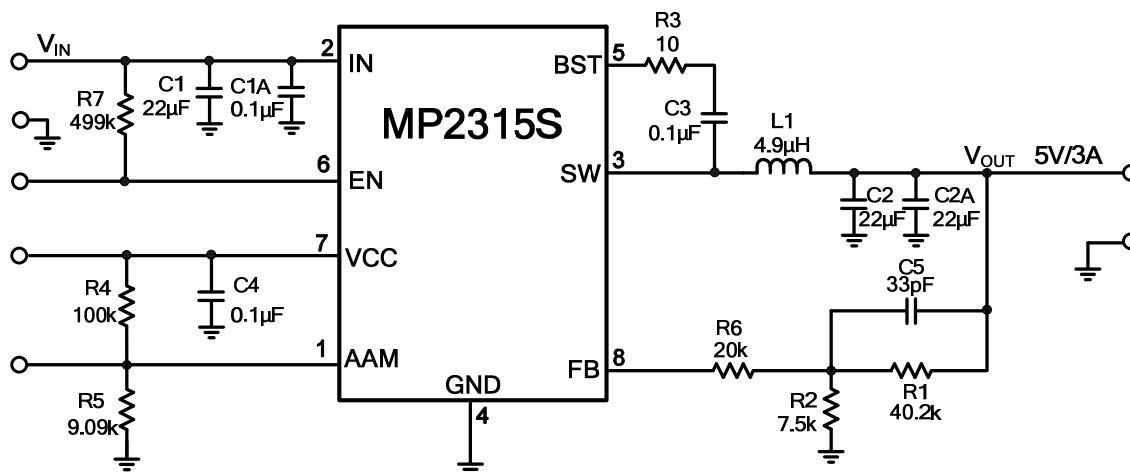

Figure 9: $V_{IN} = 6.5V - 24V$, $V_{OUT} = 5V$, $I_{OUT} = 3A$
9) The recommended layout is based on Figure 9 on page 15.
The detailed application schematic is shown in Figure 9. The typical performance and circuit waveforms are shown in the Typical Performance Characteristics section. For more device applications, please refer to the related evaluation board datasheets.